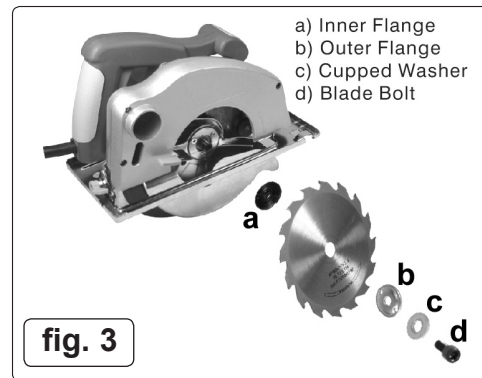

fig. 3
- 3.1.9 Fit new blade, ensuring that the teeth point in the same direction as the arrow on the blade guard. Refit the flanges, washer and blade bolt, as shown in fig.3, and tighten blade bolt using the hex key and wrench.